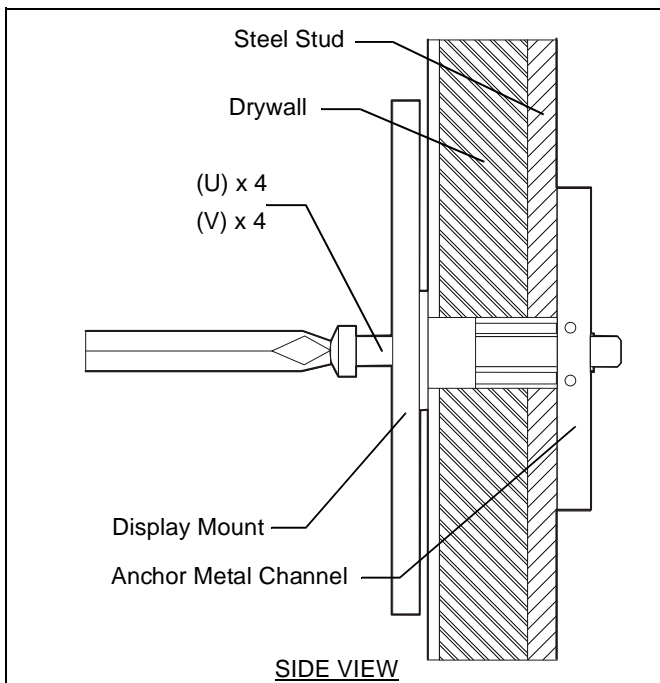

Figure 6
11. Place mount over anchors and align mounting holes in display mount with holes in anchors. (See Figure 6)
12. Place flat washer (U) onto Phillips pan head screws (V).
13. Insert Phillips pan head screws (V) with flat washer (U) through mounting hole in display mount and into anchor (W) and tighten until flush against mount. DO NOT overtighten!